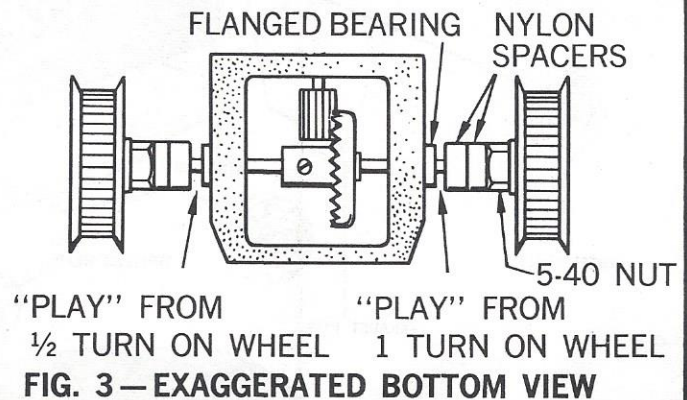

FIG. 3 — EXAGGERATED BOTTOM VIEW
4. Proper gear mesh is very important. Never bottom the teeth — gears set up too tightly always result in a poor running car. To correctly mesh your Revell gears, bottom the gear teeth and finger tighten both 5-40 axle nuts and wheels up against the nylon spacers. Then back off the wheel on the side of the axle closest to the hub side of the crown gear $\frac{1}{2}$ turn. Now jam the 5-40 nut against the wheel to lock it in place. Back off the wheel on the other side of the axle one turn and lock in place with nut. (See Figure 3) Gear should now turn quite freely in a positive manner. Rapid gear wear will result if only the tips of the gear teeth meet. Maximum performance is obtained when the gears contact each other just enough to make positive transmission. Apply light grease to gears. After $\frac{1}{2}$ hour of running, crown gear and motor pinion gear should be adjusted for tighter mesh. Gears must not bind.